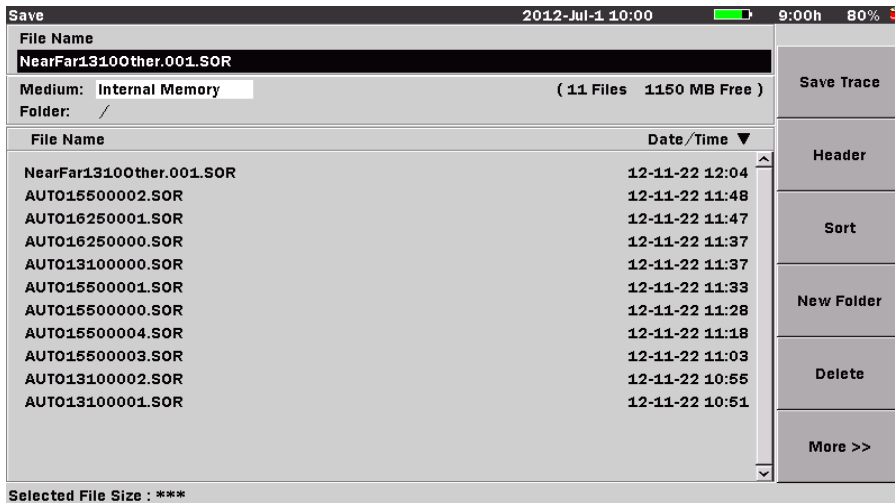

Figure 6-26: Save screen
- 12. If **File Save Verify** is selected on the OTDR (Construction) Setup screen (see Figure 6-24 on page 6-61) the Save screen appears (see Figure 6-26 on page 6-64). Review the file name and edit if desired, then press **Save Trace (f1)**. The Save screen closes and Construction mode advances to the next test.
Use the Save screen (see Figure 6-26 on page 6-64) to delete any data files stored in the internal memory or on a USB memory stick. You can delete a single file, multiple files or all of the files in the current directory.
1. At the completion of a Construction mode test, the Save screen appears (see Figure 6-26 on page 6-64).